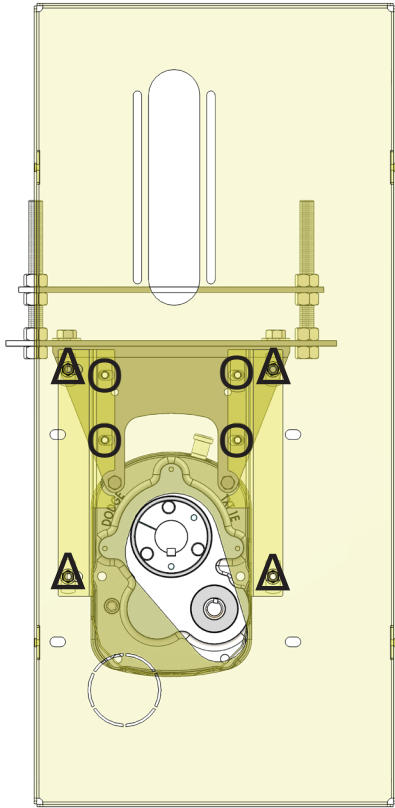

Figure 3 - TXT1 Layout
3. Assemble the belt guard mounting bracket(s) to the motor mount. After bolting the bracket(s) to the motor mount, assemble the belt guard back plate to the mounting brackets. Figures 3 through 20 in the following pages show visual representation on how the bracket(s) and back belt guard plate are mounted to each size gearbox. The back plate, as well the brackets mounting the back plate to the motor mount, are shown translucent to aid in visibility. Circle icons seen as **O**, signify the mounting points from belt guard mounting bracket(s) to the motor mount. Triangle icons seen as **Δ**, signify the mounting points from the back belt guard plate to the mounting bracket(s). Table 2 lays out the page and figure that is associated with each gearbox size.